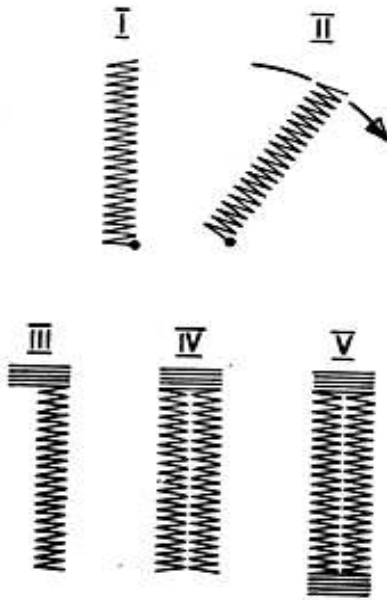

Fig. 43
- Bring lever « B » (Fig. 1) on 1.5 and make first row of stitches (Fig. 43, Operation I) going as far as to reach the limit marked by the guide. Leave needle in fabric.
- Raise presser foot and turn fabric half a turn around needle (Fig. 43, Operation II). Lower presser foot.
- Make first bartack with 3 or 4 stitches (Fig. 43, Operation III) and stop sewing with needle out of fabric.
- Bring lever « B » on 1.5 and make second row of stitches as long as the first (Fig. 43, Operation IV). Stop sewing with needle out of the fabric.
- Bring lever « B » on 3 and make second bartack (Fig. 43, Operation V).